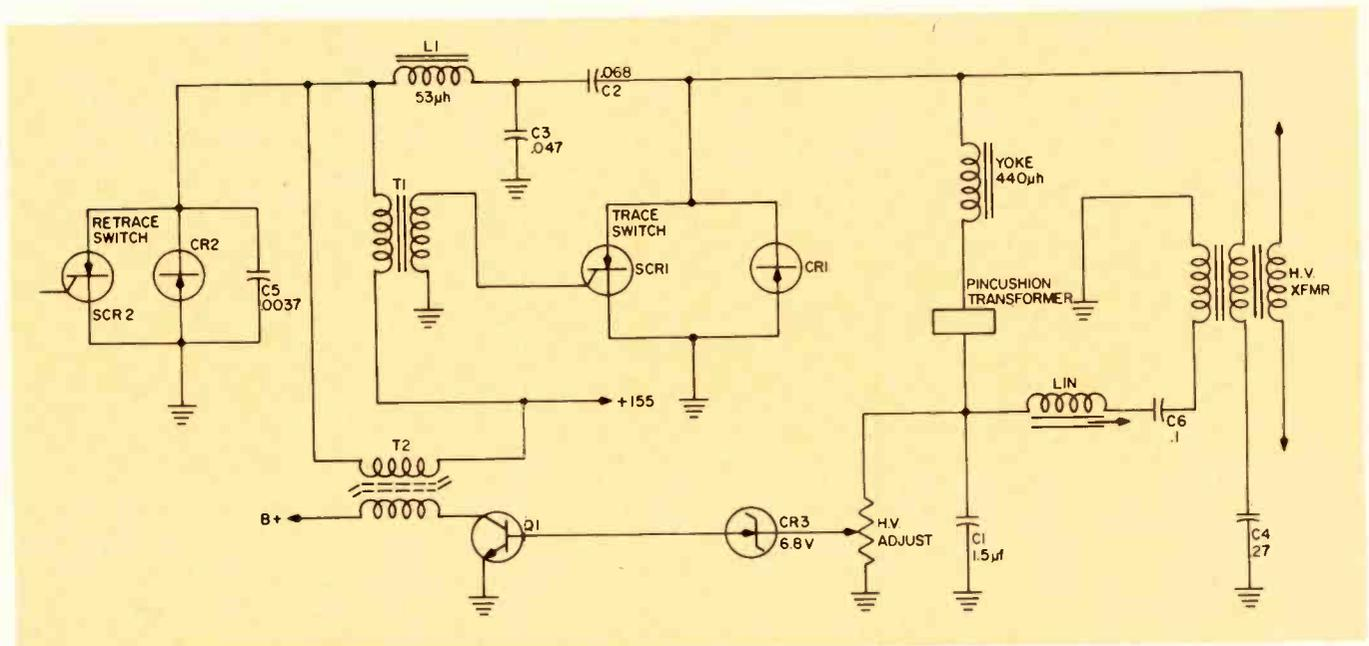

Fig. 1--Simplified schematic of the horizontal deflection system employed in RCA Victor's CTC40 chassis.
■ The horizontal-deflection system employed in the RCA CTC40 chassis is believed to be unique in television designs currently on the market. The switching action required to generate scan and retrace yoke current, as well as high voltage pulses, is accomplished by two bipolar switches, each consisting of an SCR and a fast-recovery diode. The essential components of the system, including the high-voltage regulator, are shown in Fig. 1.
The second linearity circuit is shown in Fig. 1. The coil and capacitor connected between a winding of the high-voltage transformer and the junction of the yoke and C1 are tuned to approximately the second harmonic of the scan frequency. The circuit is shock excited during retrace time, and during scan time it adds a second-harmonic current to the yoke to make the total current nearly a sawtooth.